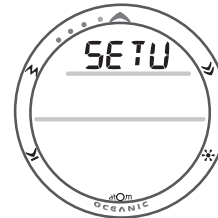

Fig. 56 - SET U
- > Depressing the A and S buttons simultaneously for 6 seconds while the NORM or GAUG SURF MAIN screen is displayed, will access SET U identified by the graphic SETU (Fig. 56).